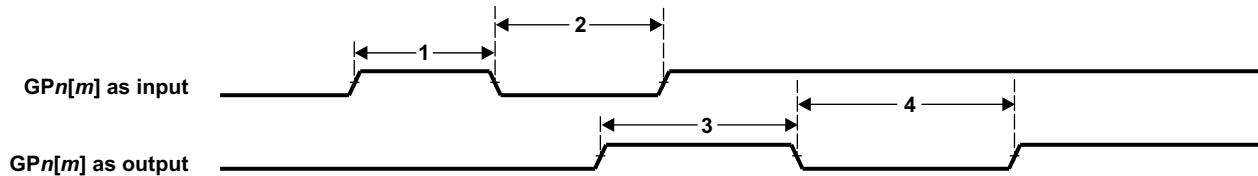

**Figure 6-10. GPIO Port Timing**
**Table 6-11. Timing Requirements for GPIO Inputs(1)** (see Figure 6-10)
(see Figure 6-10)